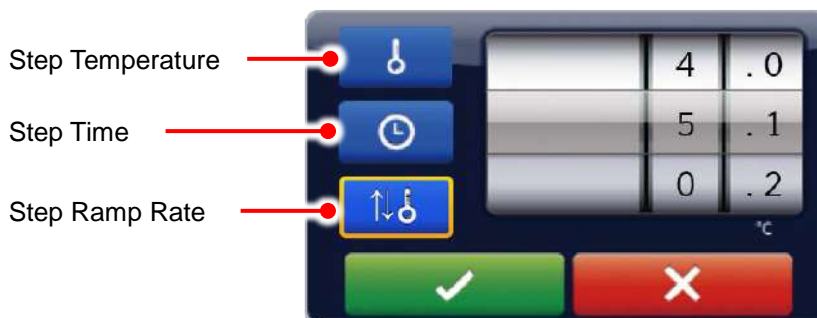

Figure 12. Temperature/Time/Ramp Rate setting
- To select the **Step**, tap on the step segment. The selected **Step** will be highlighted and the **Step Temperature, Time and Ramp Rate**  will be displayed. Tap on  and a spinning wheel will pop up as shown in Figure 12, allowing you to modify the **Step Temperature, Step Time or Step Ramp Rate**.